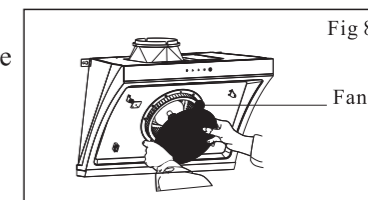

Fig 8
- e. Remove the nut of the Fan as the guiding arrow, then soak the fan with detergence. (Fig8)